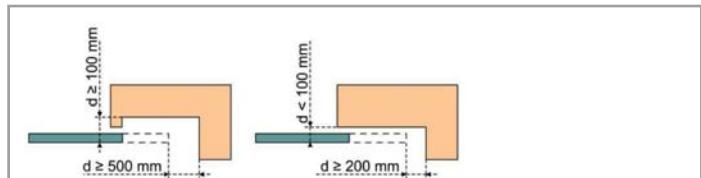

Figure 1 – Safety distances
ZONE 3 Risk of crushing with an adjoining fixed section upon opening	Protection by safety edge(s). Obstacle detection must be confirmed as compliant with Appendix A of standard EN 12 453. Protection by means of safety distances (see figure 1).
2.2. Composition of the kit - Fig. 1